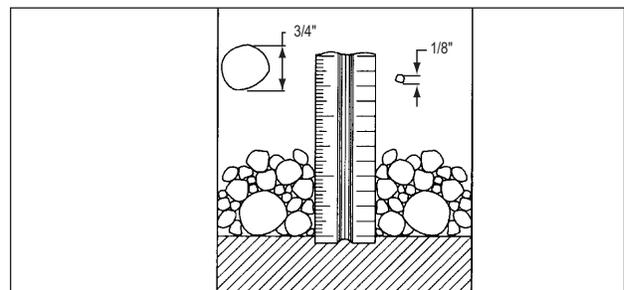

FIGURE 4-1
4.1.3.2. When using pea gravel, the material is to be a mix of rounded particles, sizes between 1/8 inch and 3/4 inch. (See FIGURE 4-1.) The pea gravel must conform to the specifications of ASTM C-33, paragraph 9.1, sizes 6, 67 or 7.